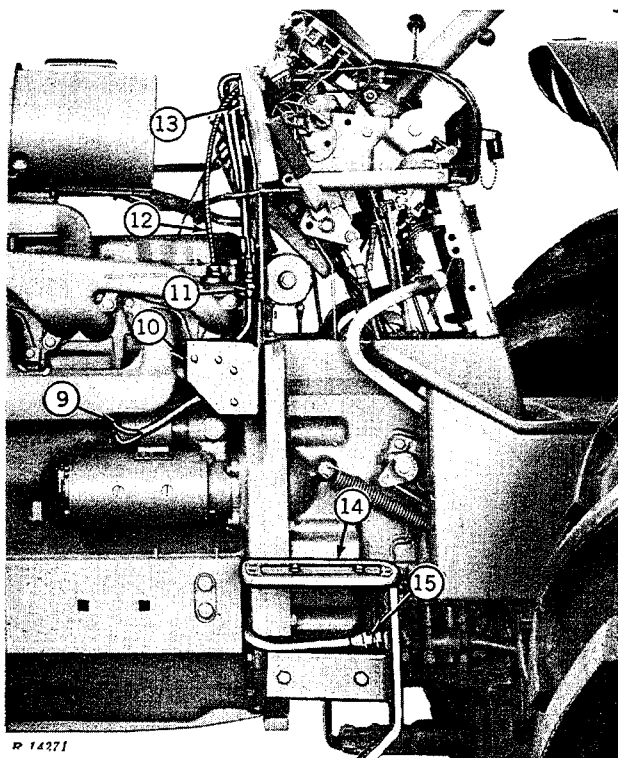

Fig. 5—Separation Procedures on Left-Hand Side
9. Disconnect battery cable from starter (Fig. 5).